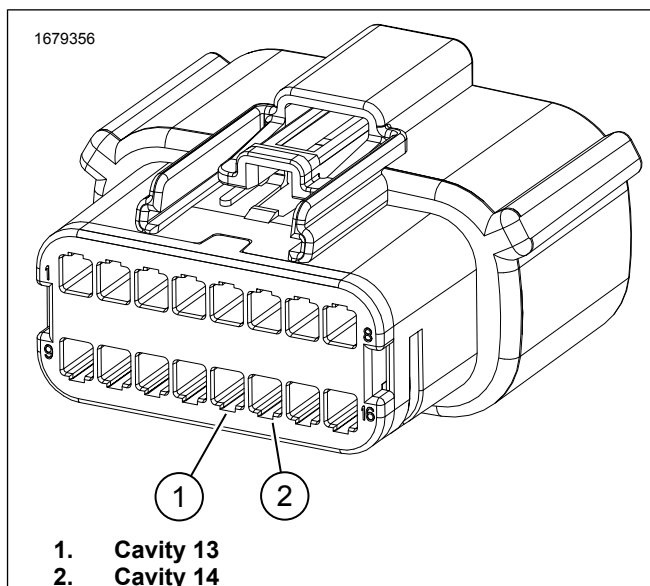

Figure 3. 16-Pin Connector C288_1
4. See Figure 3. Remove plugs from cavity's 13 and 14 of connector [C288B_1].